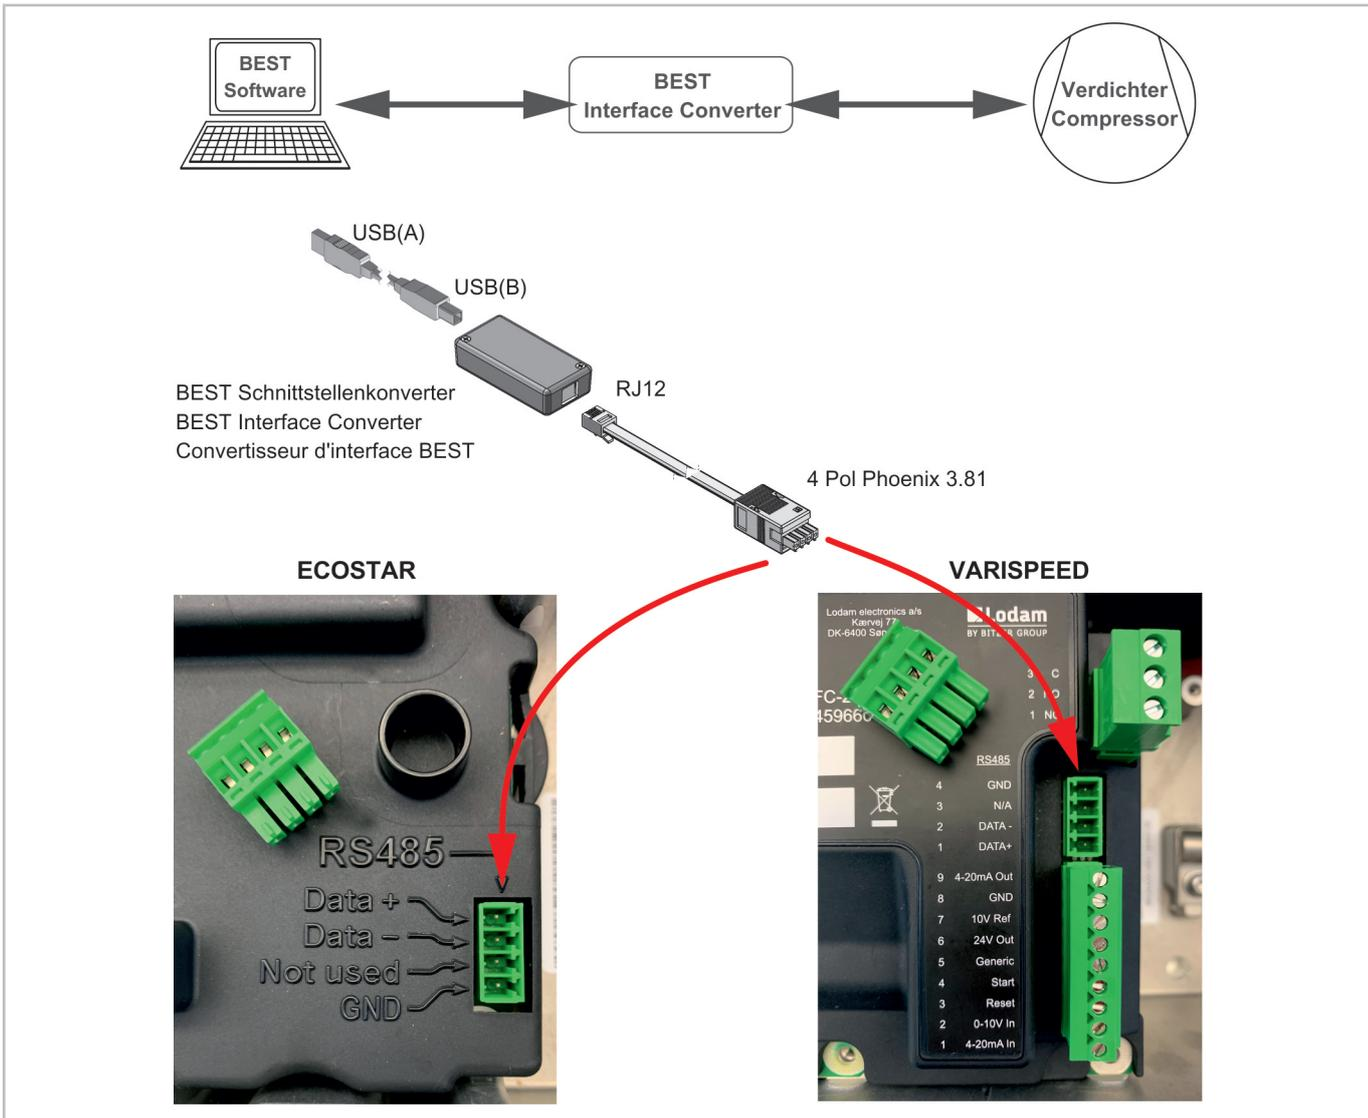

Fig. 10: Connecting VARISPEED .F1 using the BEST interface converter.
- ▶ Connect the BEST interface converter to the terminal strip X100 and the mobile device (see figure 10, page 31).
- ▶ Click the NEW button (2).